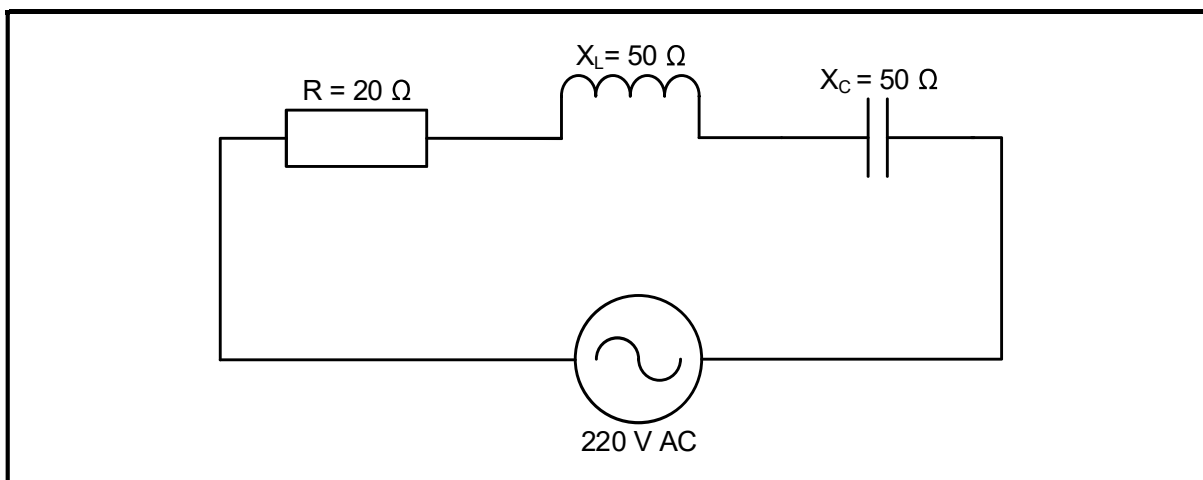

FIGURE 3.5: RLC SERIES CIRCUIT
3.5 Refer to FIGURE 3.5 below and answer the questions that follow.
- 3.5.4 Explain why the phase angle of the circuit in FIGURE 3.5 would be zero. (2)
4.5 Refer to FIGURE 3.5 below and answer the questions that follow.